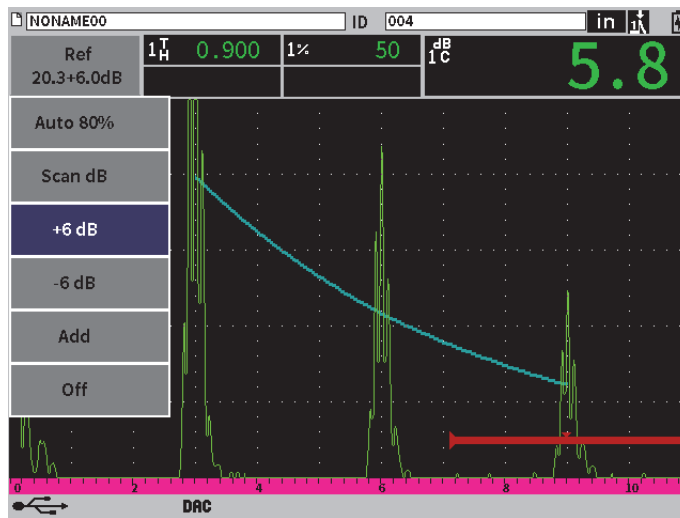

Figure 11-11 Standard DAC with 6 dB scanning gain
2. Adjust the gain in either coarse or fine increments, or use the **+6 dB** or **−6 dB** buttons to increase or decrease the scanning gain (see Figure 11-11 on page 185).